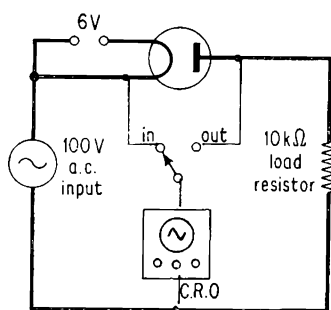

Fig. 183
- (i) Connect a diode d_1 in the circuit of Fig. 183. Use an oscilloscope to compare the input and output voltages and sketch the results.